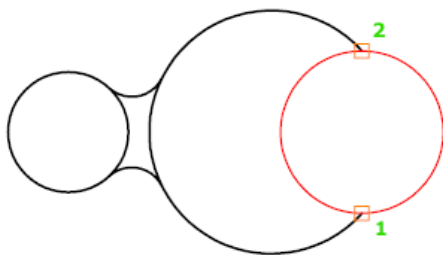

Figure 24
4. **3P (Three Points):** Creates a circle based on three points on the circumference (Fig. 24).